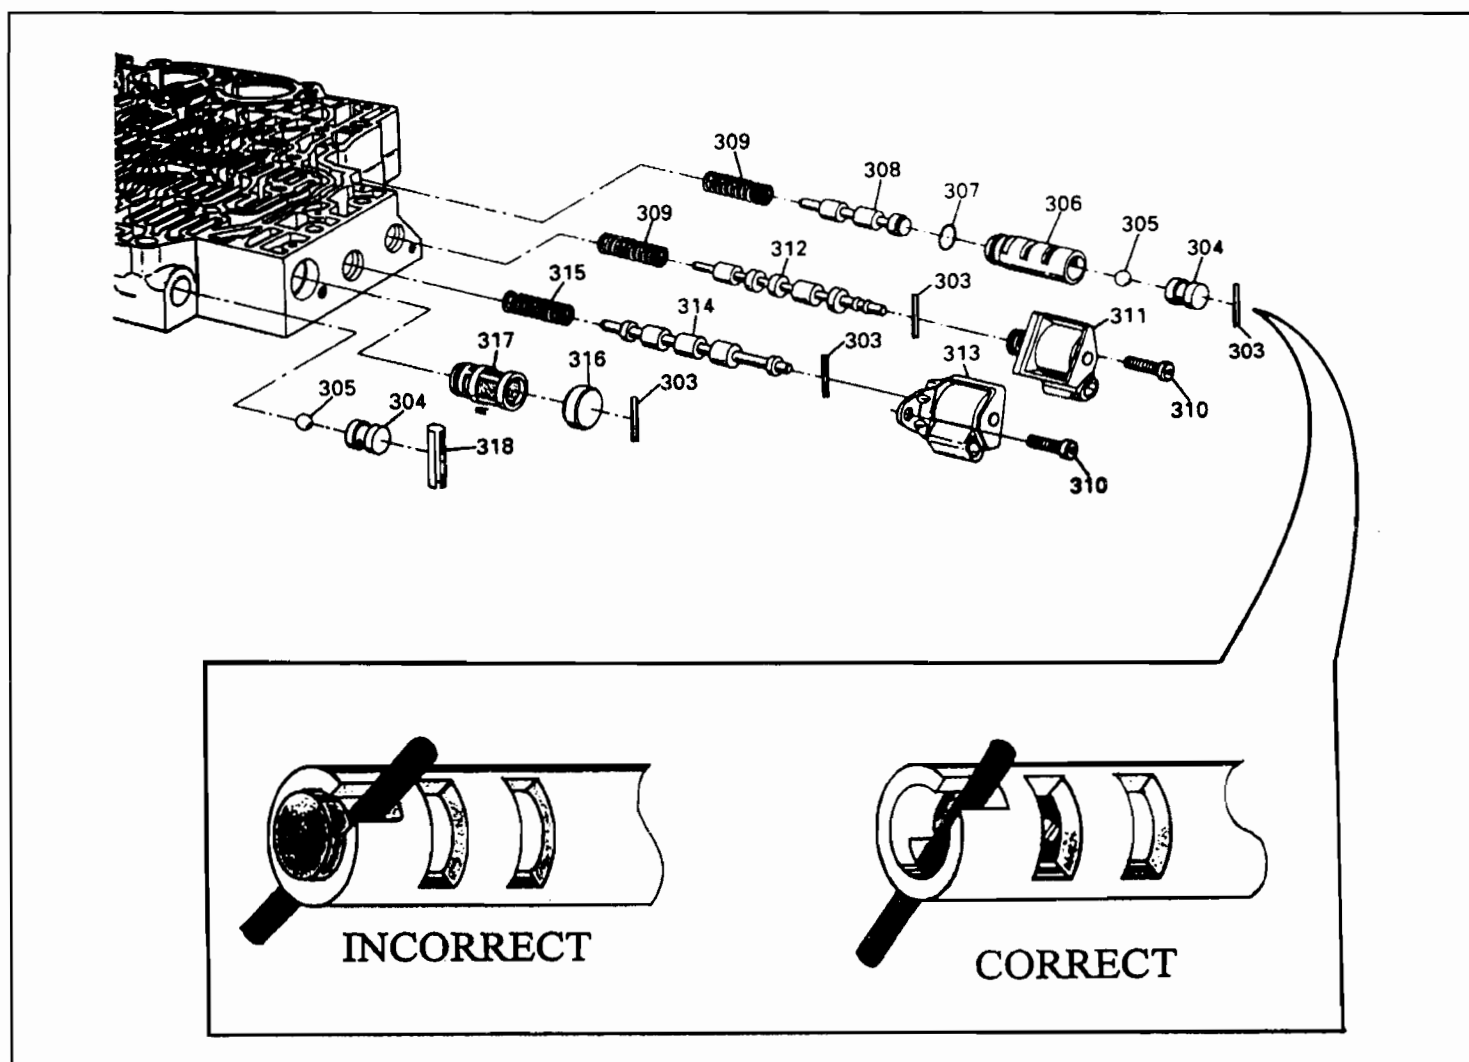

Figure 37
**CAUSE:** The cause may be, the roll pin that retains the 3rd/Reverse checkball bushing and bore plug in the valve body, has been mislocated through the hole in the bore plug, as shown in Figure 37.
**CORRECTION:** Position the roll pin in front of the bore plug, as shown Figure 37. The roll pin will be visible when looking at the end of the bore, after the valve train has been installed, if you have assembled it correctly (See Figure 37).